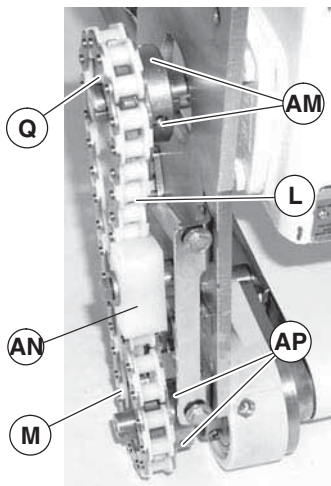

Figure 32
Make sure center of timing chain (Figure 32, item L) aligns with center of chain tensioner (AN). If necessary, move drive sprocket (Q) in or out and then tighten set screws (AM). Also, if necessary, move driven sprocket (M) in or out and then tighten set screws (AP).